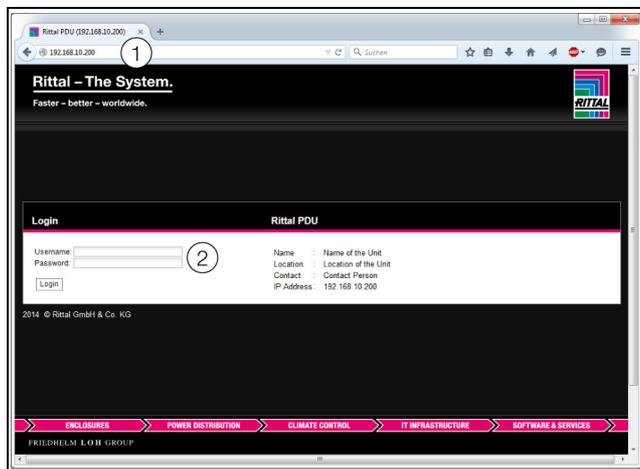

Fig. 20: Logon screen with an HTTP connection
- In the browser, enter the address **http://192.168.0.200** (fig. 20, item 1). The logon dialog for logging on to the device will be displayed.
- Log in with the username **admin** and the password **admin** (fig. 20, item 2).